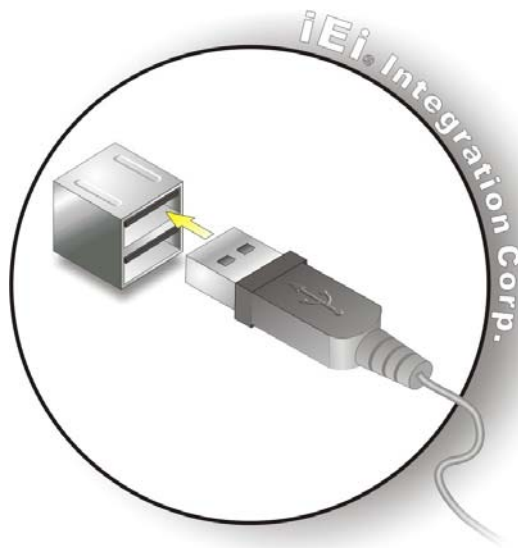

Figure 4-24: USB Connector
**Step 2: Insert a USB Series "A" plug.** Insert the USB Series "A" plug of a device into the USB Series "A" receptacle on the external peripheral interface. See **Figure 4-24**.